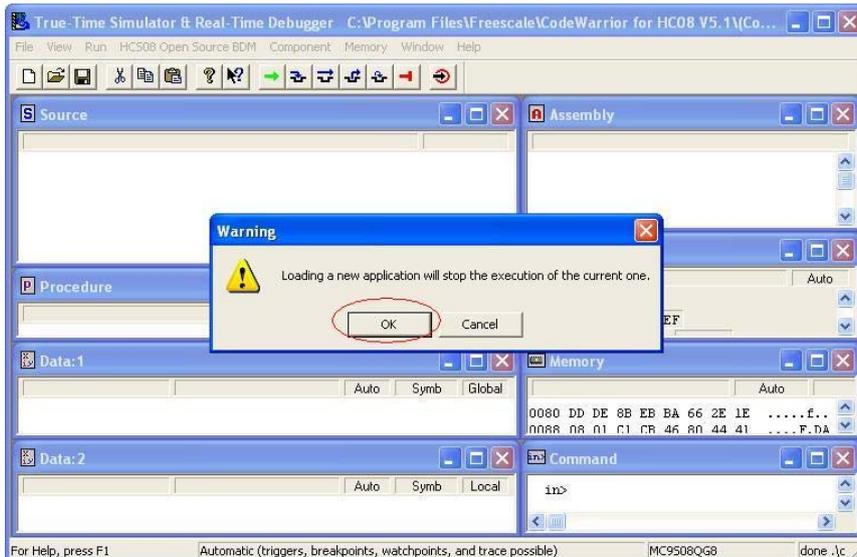

Figure 13: Warning message, click ok to continue
- 9- Another warning message will appear telling that the EEPROM and FLASH will be both mass erased and the application will then be programmed, click ok to continue (see Figure 13). The EEPROM and FLASH is then erased and reprogrammed with the new application.